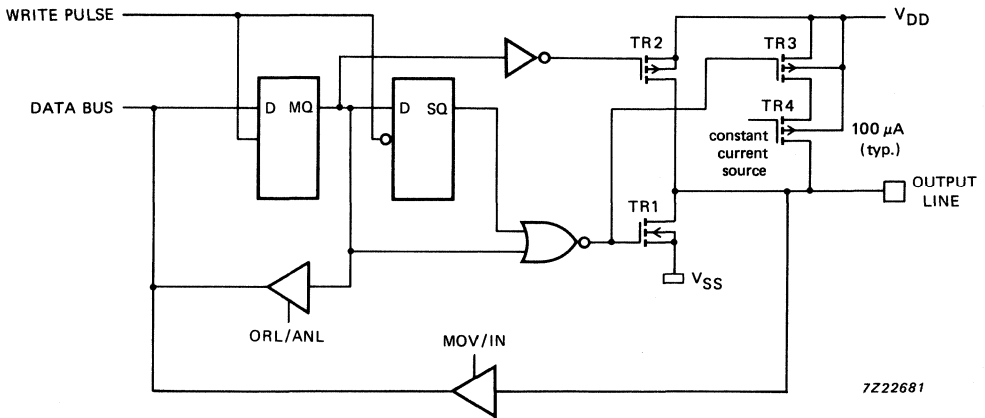

Fig. 13 Push-pull output.
3. PUSH-PULL OUTPUT: the outputs can sink or source  $1,6\ \text{mA}$  (min.) at  $V_{DD} = 5\ \text{V}$ . These pins may not be used as inputs (Fig. 13). The contents of the port latch may be read using the IN A,pp instruction.